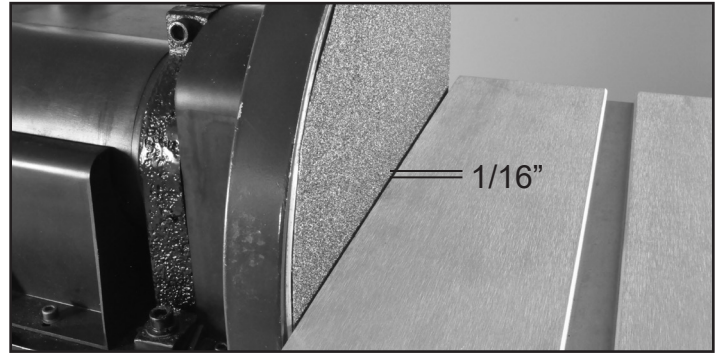

FIG. 11
**WARNING** To avoid jamming the work piece or fingers between the table and sanding surface, the table edge should be set to a maximum of 1/16 inches away from sanding surface. FIG. 11.